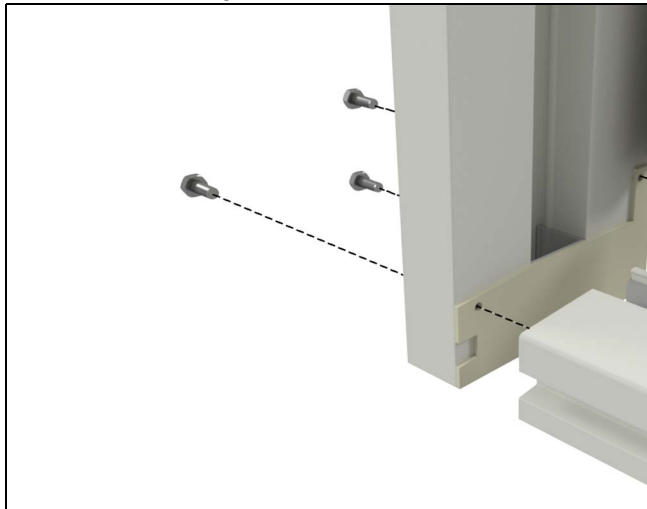

Figure 3
2. Assemble left hand jamb to Track Bottom using three #12 x 1 ½ Tek Hex head screws. See Figure 3.
5. Assemble right hand jamb to Track Bottom using three #12 x 1 ½ TEK Hex Head screws. See Figure 3.